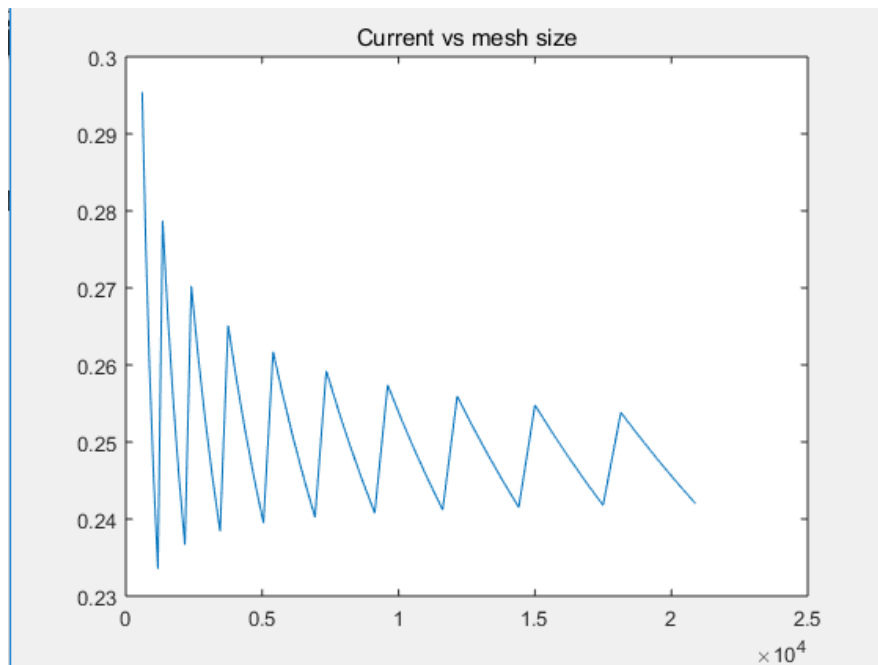

Figure 9: Current vs mesh size (current converges gradually to around 0.25)
- b) As mesh density becomes larger (W and L both get larger), the current coming out from the right side of the conductor varies, and it converges to about 0.25. The graph of current vs mesh size is shown in Figure 9 below.